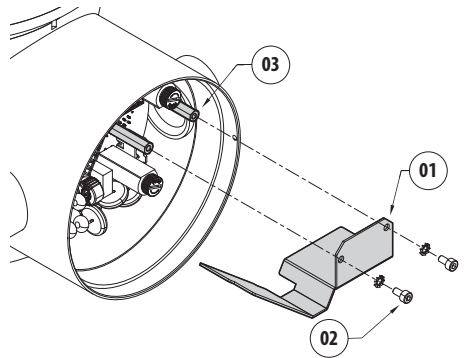
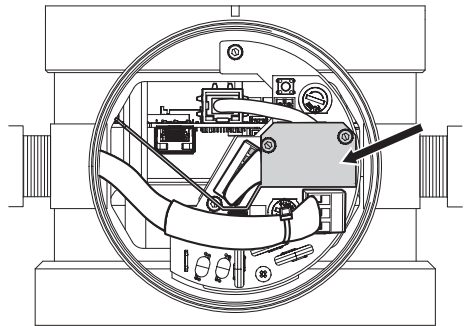

Fig. 18
Fig. 19
Fasten the barrier (01) using the specific screws and washers (02) to the prepared spacers (03) (Fig. 18, page 32 and Fig. 19, page 32).